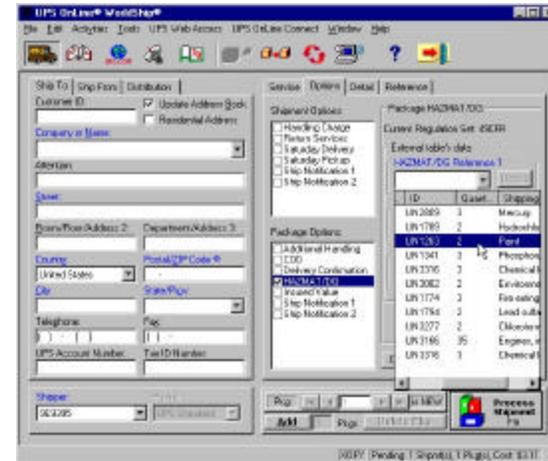

Figure 10: Select one of your shipped materials from the drop-down list.
The MASTERFORM installation will attempt to set up the DSN connection automatically. After installing MASTERFORM for UPS, you will see a new checkbox option named **HAZMAT/DG** in the Options tab of WorldShip® (see Figure 10).
2. Click the drop-down arrow on the box directly underneath *HAZMAT/DG Reference 1* to choose from a list of your shipped materials. (See Figure 10.)